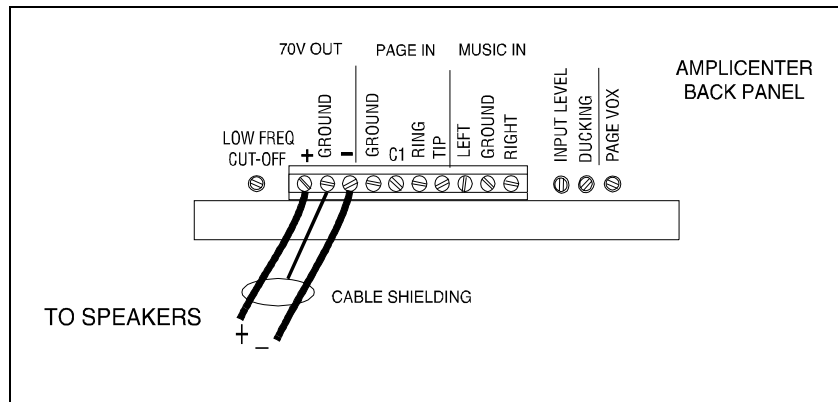

Figure 4. Speaker Connection on AmpliCenter
3. Hookup speaker cable to AmpliCenter (see Figure 4).